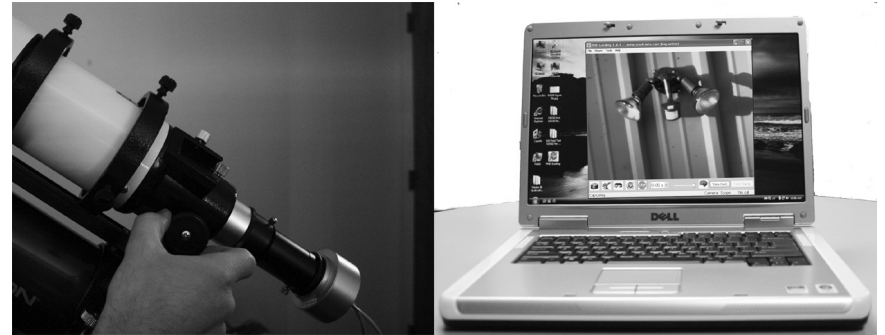

Figure 8. Gradually move the focuser inward until you have a clear daytime image on your computer screen.
8. Gradually move the telescope focus inward until you get a sharp image on your computer screen (Figure 8). The SSAG focuses approximately 15mm inward from a standard 1.25" eyepiece. On most refractors, a 1.25" extension tube (available from Orion) is usually needed to reach focus. Alternatively, you can use a star diagonal. Note the approximate position of your focuser where the SSAG reached focus on your guidescope to make the same task at night much easier.